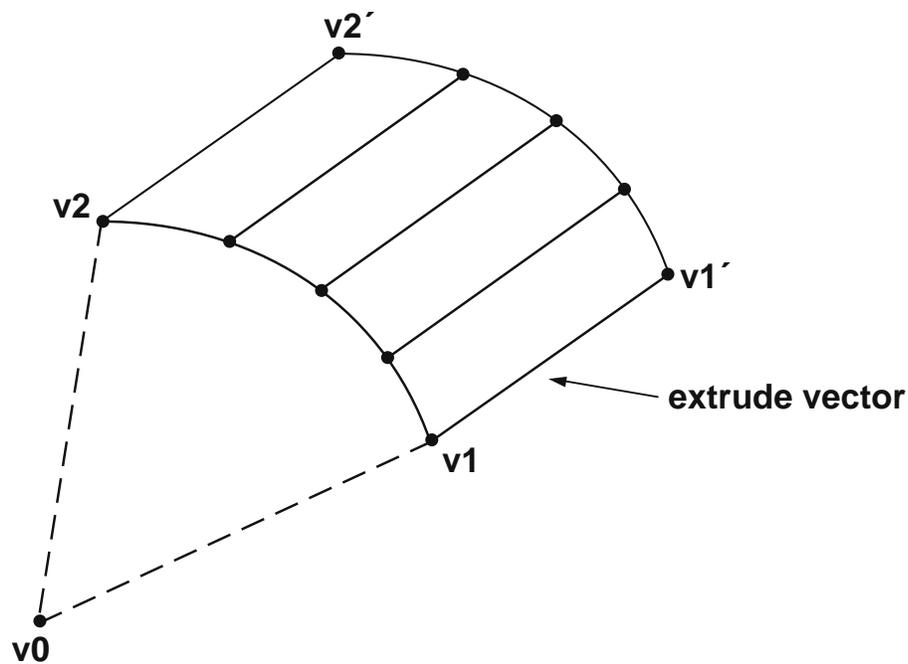

Figure 1.9 Arc polygon surface (for segment = 4)
- An **arc** surface is generated in two steps. First, an arc is created from three vertices. The first vertex locates the center of the arc, and the next two vertices locate the endpoints. Then, the surface is created by extruding lines from each vertex along the arc, with direction and magnitude defined by the **extrude** vector (see Figure 1.9). For example, the vertices $v1'$ and $v2'$, and the vertices defining the segments of the arc from $v1'$ to $v2'$, are created automatically by adding the extrude vector to vertices $v1$, $v2$ and the vertices defining the segments of the arc from $v1$ to $v2$. The **close** and **cap** keywords also work with the **arc** surface in the same way as with the extruded polygon surface (see Rule 4). If **close** is specified, a vertex is created at $v0$ to generate the closed surface.